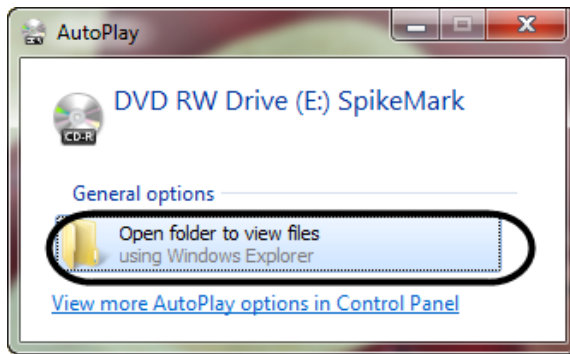

Figure 1
3. In the **AutoPlay** window, click on **Open folder to view files** (Figure 1).